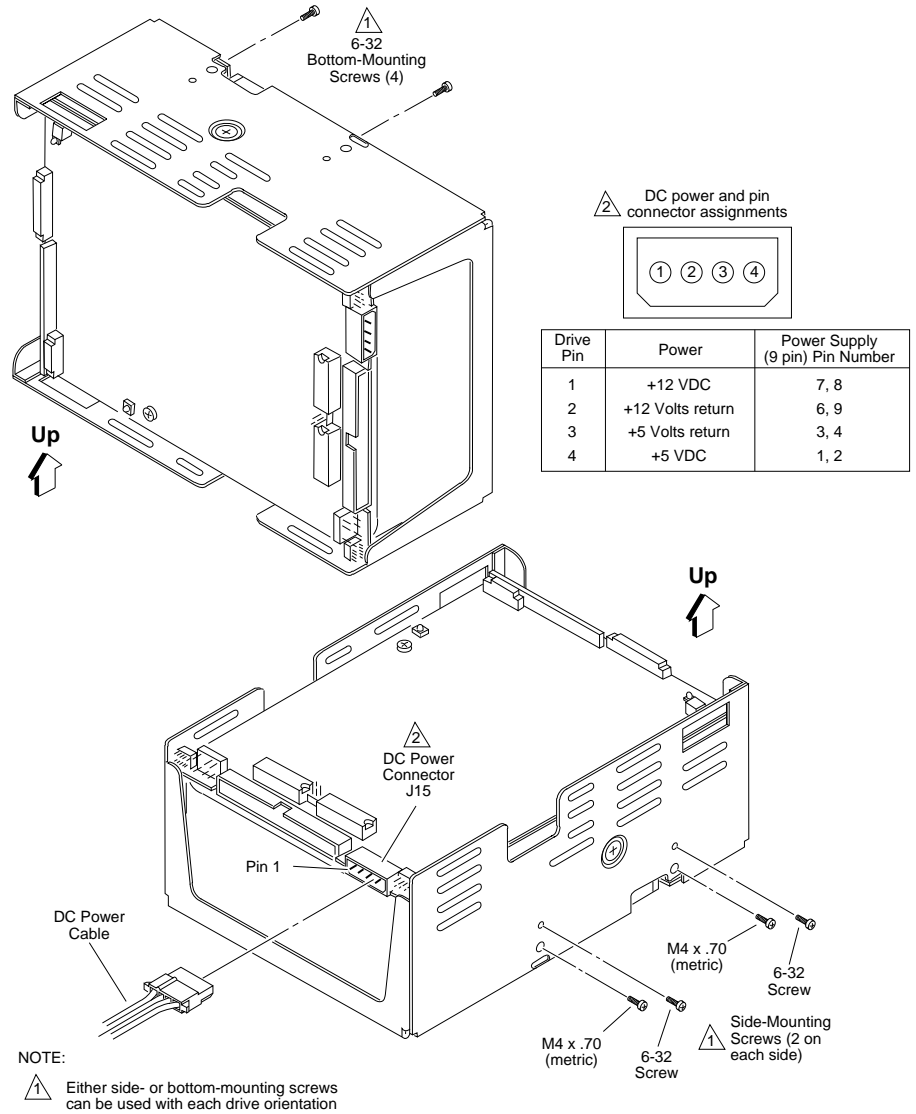

Figure 10. Mounting the drive
The drive may be secured to the enclosure via tapped holes in either the sides or the bottom of the drive chassis. Figure 10 shows two of the three allowable orientations.
1. Place the drive into position in the enclosure and secure with four screws as shown in Figure 10.